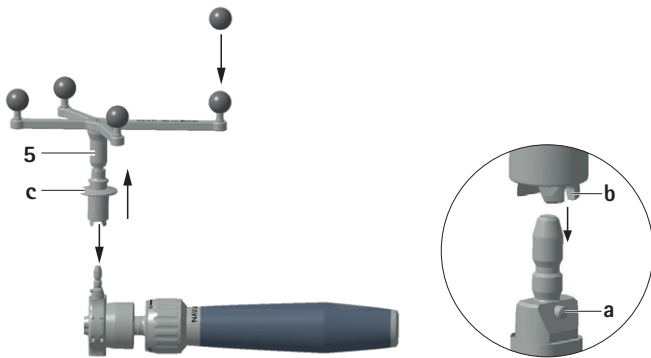

Fig. 1
- ▶ Proceed as follows to mount a navigation adapter 5/6 on any navigated instrument, see Fig. 1.